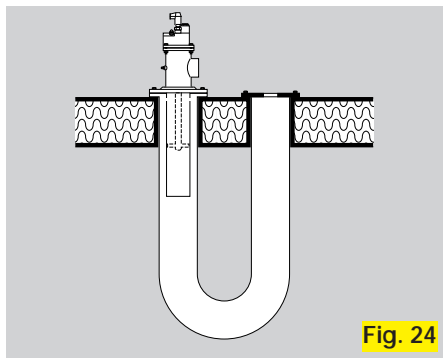

Fig. 24
Burner tubes on BIO(A) with **secondary air holes** and/or of stainless steel design in conjunction with burner additional tubes for use in radiant tubes and combustion chambers (Fig. 24 + 25).